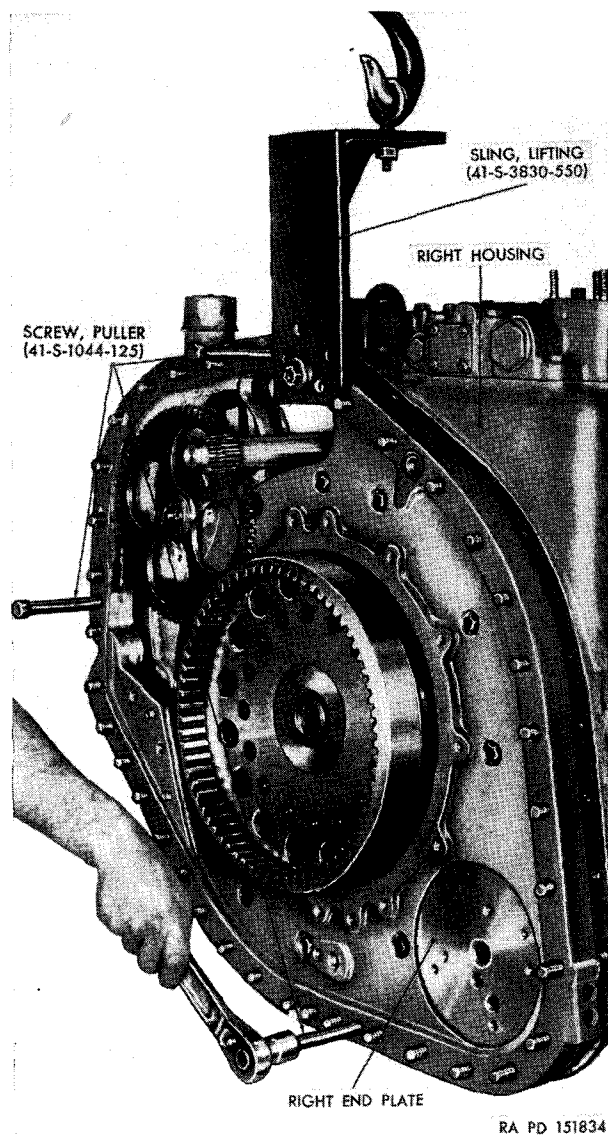
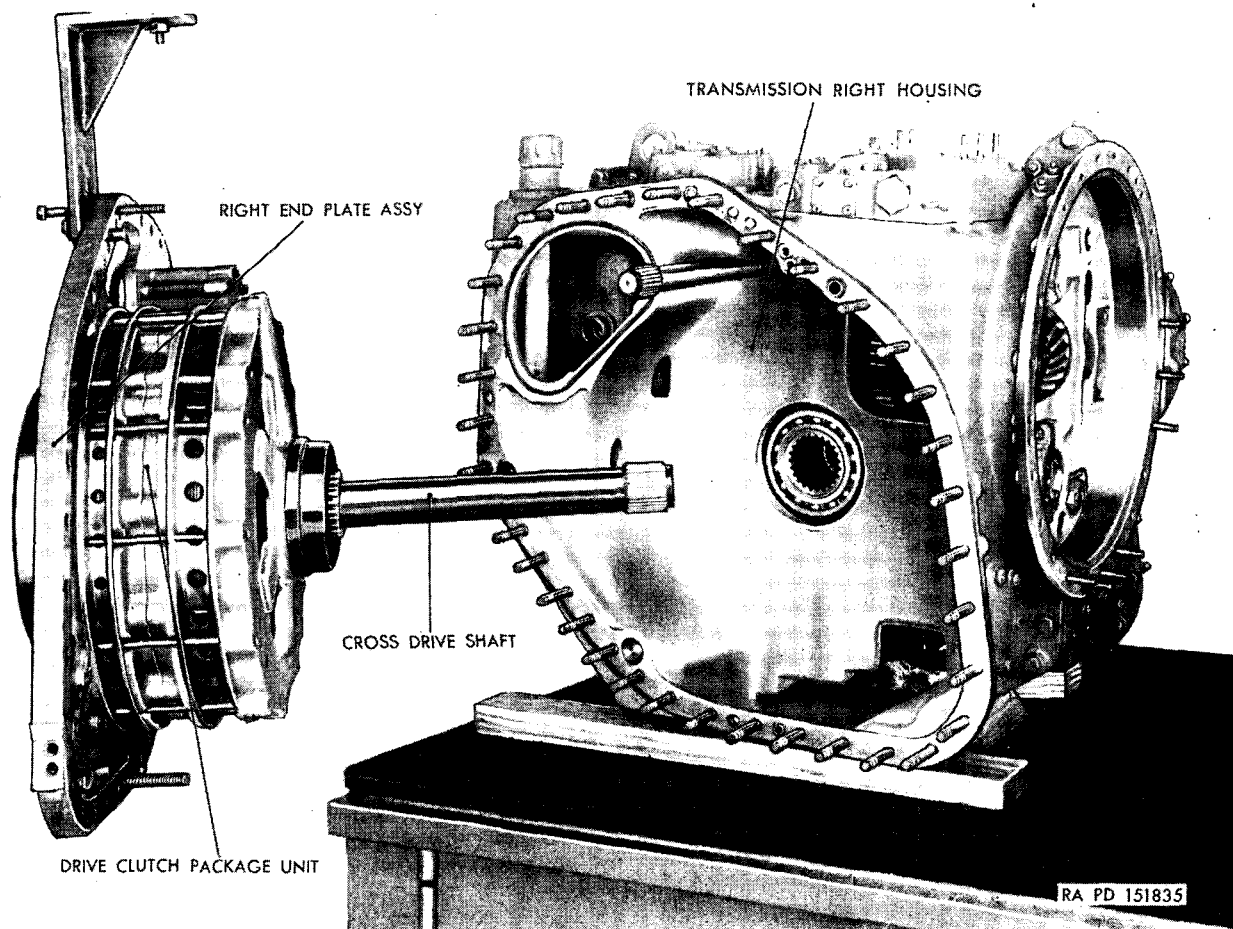

Figure 95. Lifting sling and puller screws attached to right end plate.
Figure 96. Removing or installing right-end-plate assembly using lifting sling (41-S-8830-550).
- (14) Attach the lifting sling (41-S-3830-550) to the end plate. Using three puller screws (41-S-1044-125), separate the end plate assembly from the main housing (fig. 95). Remove the end plate assembly (fig. 96).